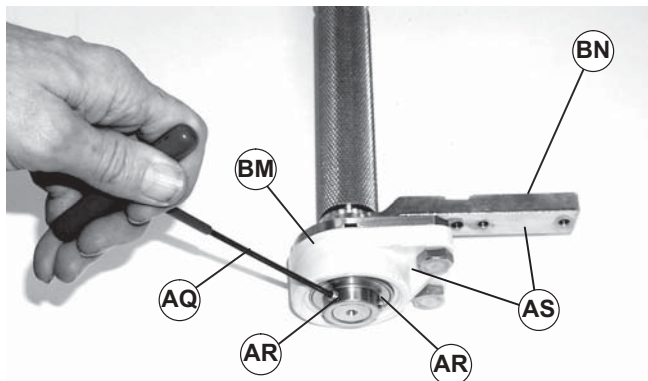

Figure 37
- Using a 3mm hex key wrench (Figure 37, item AQ), loosen two set screws (AR) on bearing and head plate assembly (AS).
If bearings (Figure 37, item BM) require removal from head plates (BN), see "Bearing Removal" on page 17.
6. Using a 3mm hex key wrench (Figure 37, item AQ), tighten two set screws (AR) on each bearing and head plate assembly (AS).